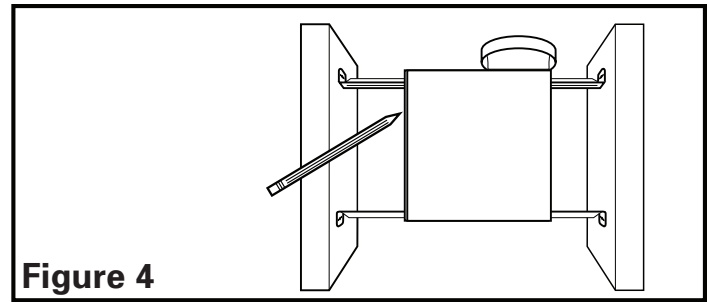

Figure 4
1. Set housing in position between the joist and trace an outline onto the ceiling material (**Figure 4**). Set housing aside and cut opening, being careful not to cut or damage any electrical or other hidden utilities. Install the rails on the housing and position the housing in the previously cut hole so that it is flush with the finished ceiling. Secure the ends of the rails to the joists (**Figure 3**).